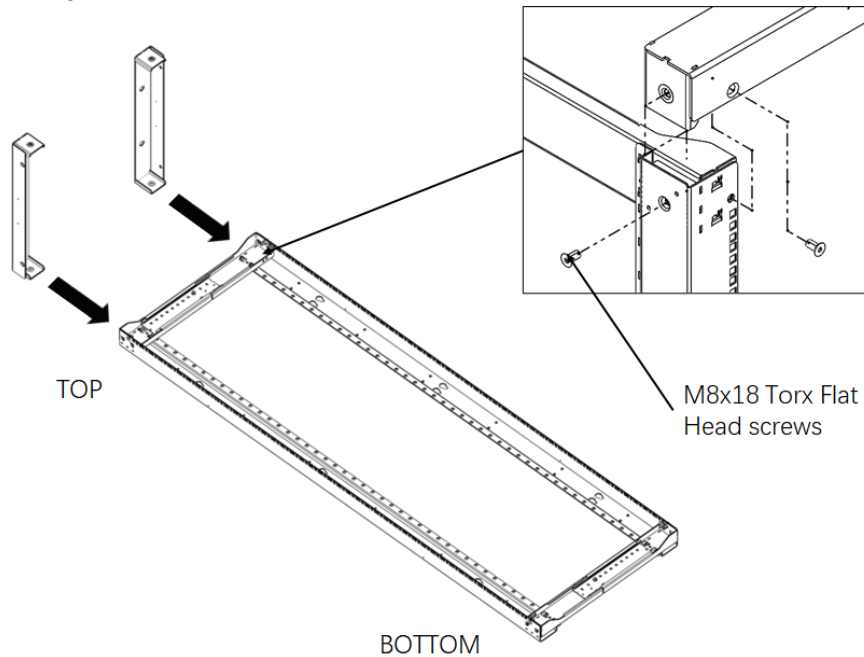

Figure 5
1) Take one side frame kit and install two connecting beams on the top side of it, fix two corners with 4 pcs M8x18 Torx Flat Head screws as shown in Figure 5. Torque=21.0N·m.